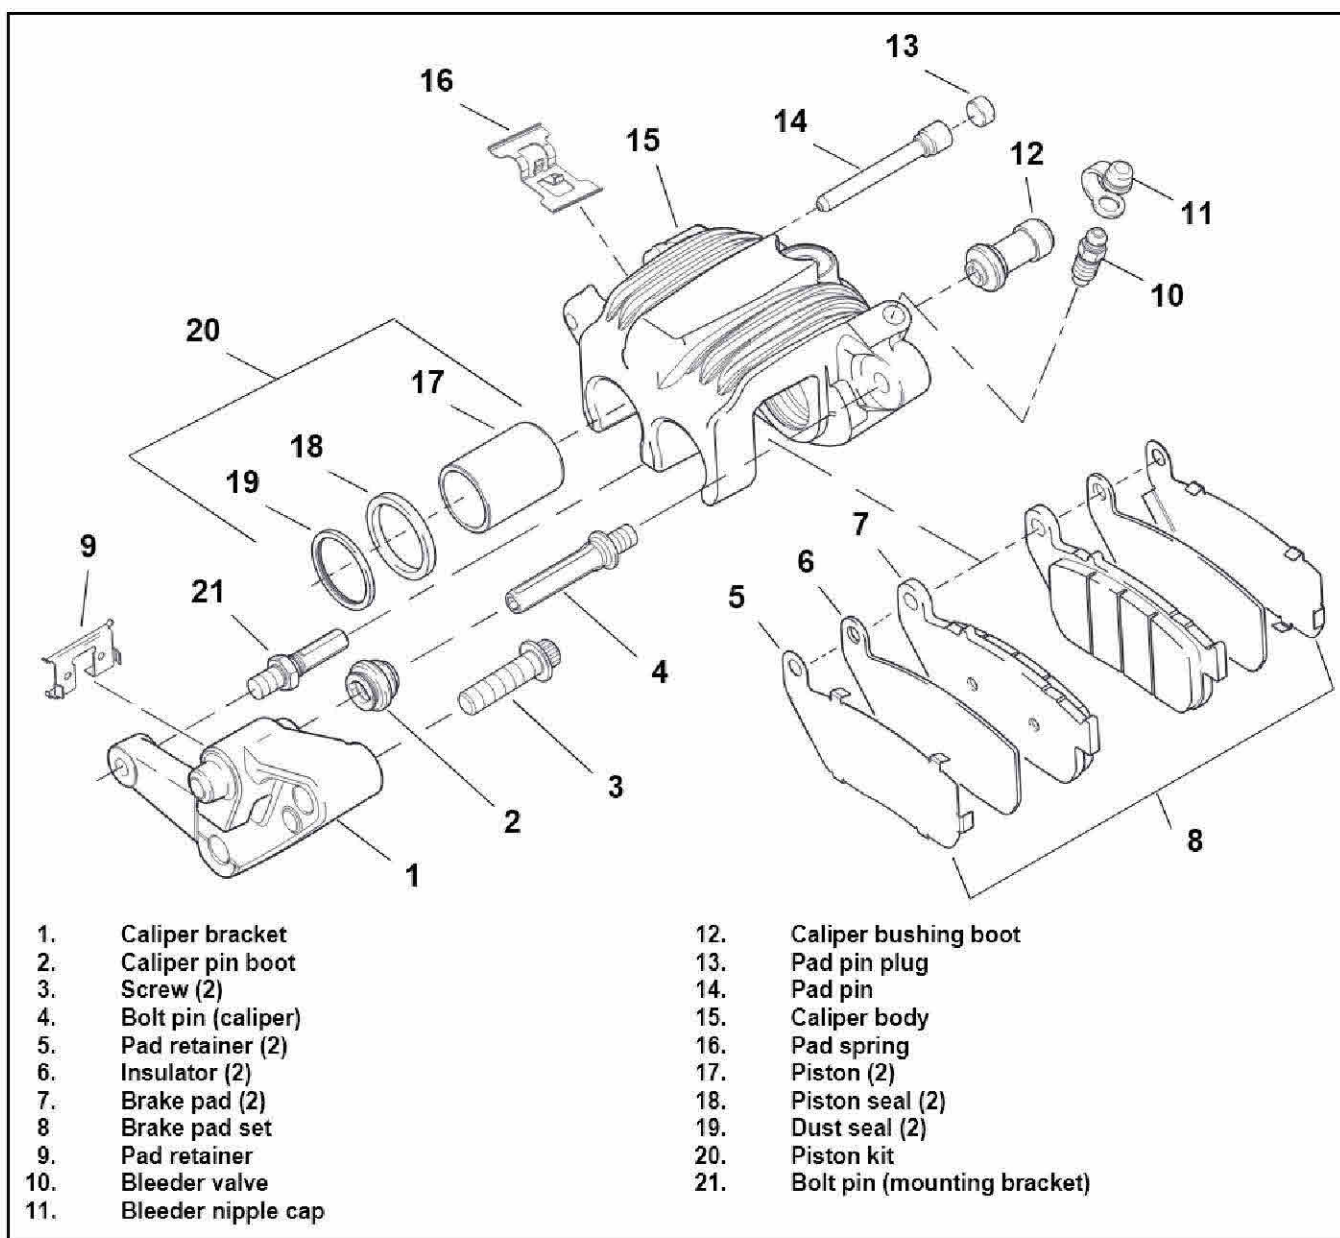
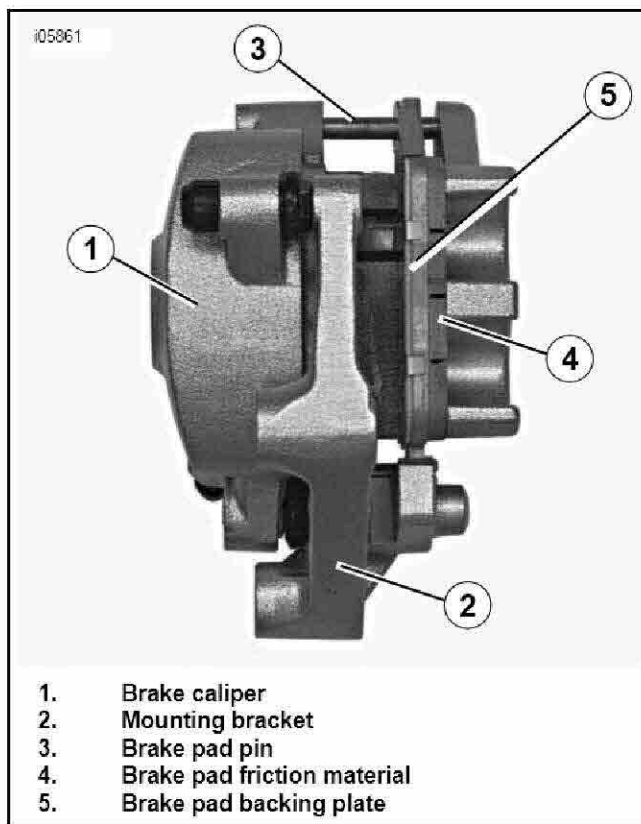

Figure 4. Front Brake Caliper Assembly
Figure 5. Front Brake Master Cylinder
1. See Figure 4. Remove brake pad pin (14) and brake pads (8) from caliper body (15).
2. Slide brake caliper off mounting bracket (1).
3. Remove pad spring (16). Do not remove bleeder valve (10) at this time.
4. See Figure 5. Install a discarded brake pad in the caliper (1) with the backing plate (5) facing the pistons. Position the brake pad so the friction material (4) is against the back of the caliper, as shown.
5. Loosely install brake pad pin (3) to hold brake pad in place.
8. See Figure 4. Remove pistons (17) from caliper bores by hand. If necessary, wiggle pistons to completely remove.
10. See Figure 4. If necessary, remove bleeder valve (10).
1. See Figure 4. Wipe old lubrication from inside of caliper pin boot (2) and caliper bushing boot (12) with a soft, clean cloth.
7. See Figure 4. Press brake pads (8) tightly against caliper pad spring (16) and install pad pin (14). Tighten to 131-173 **in-lbs** (14.7-19.6 Nm).
8. See Figure 4. Install pad pin plug (13). Tighten to 18-25 **in-lbs** (2.0-2.9 Nm).